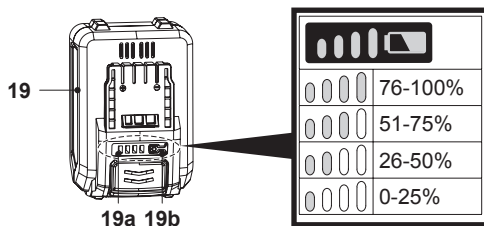

Fig. 10
The battery pack (19) is equipped with battery capacity indicator (19a) which are used to give an indication of the battery pack's remaining capacity. Press the battery capacity button (19b) to check battery capacity (Fig. 10). The LEDs will stay lit for approximately 5 seconds.